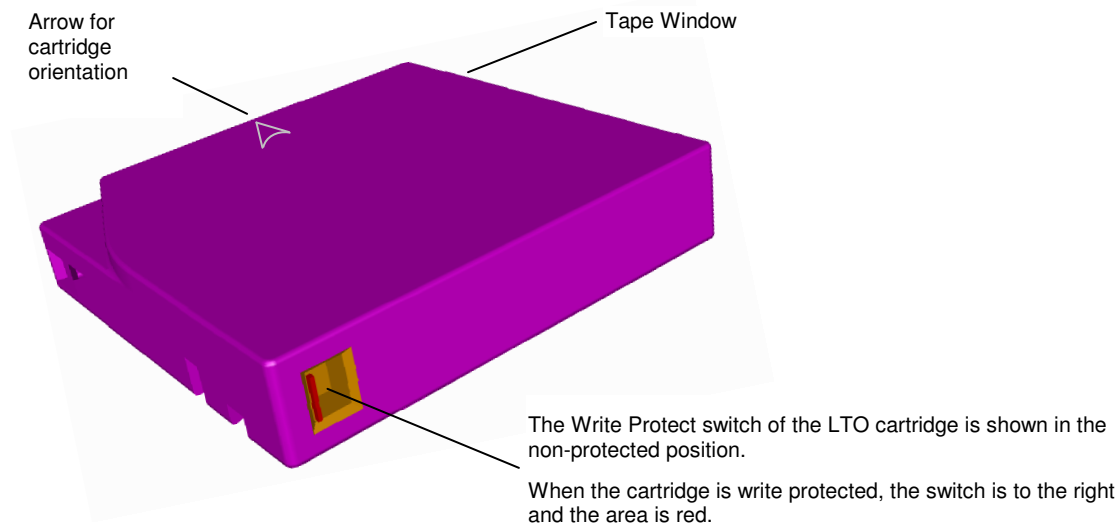

Figure 4.2 LTO cartridge write protect switch
1. Ensure that the LTO cartridge is correctly oriented with the arrow on the cartridge pointing up and towards the tape drive (see *Figure 4.2* for tape orientation).